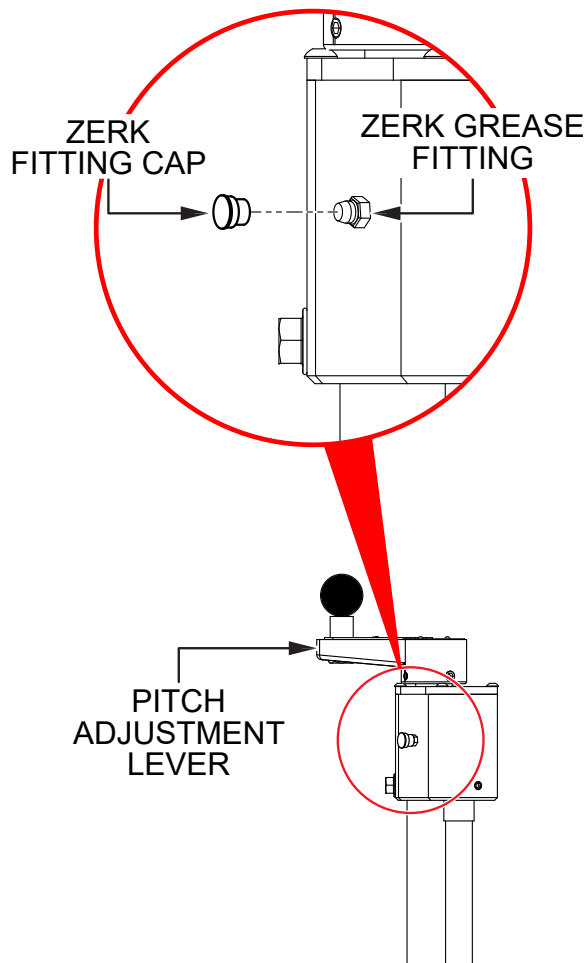

Figure 40. Pitch Tower Lubrication
1. Locate the Zerk grease fitting just below the pitch adjustment lever on either pitch tower (Figure 40). Remove the Zerk grease fitting cap and set it aside.